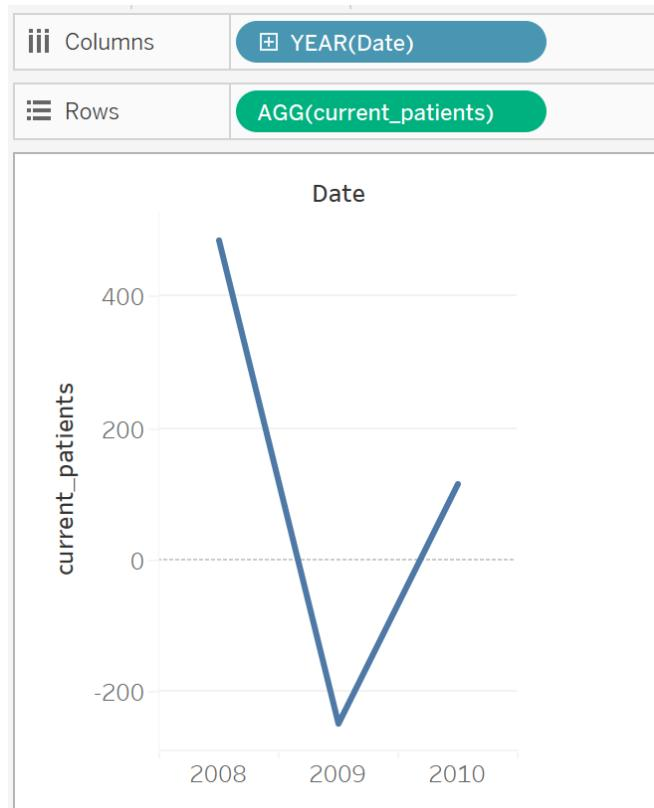

Figure 8.81: Adding a calculation to the view
6. Add a table calculation to **current_patients**, as shown in the following figure similar to how we did it in *Step 3*. Refer to *Figure 8.81*: